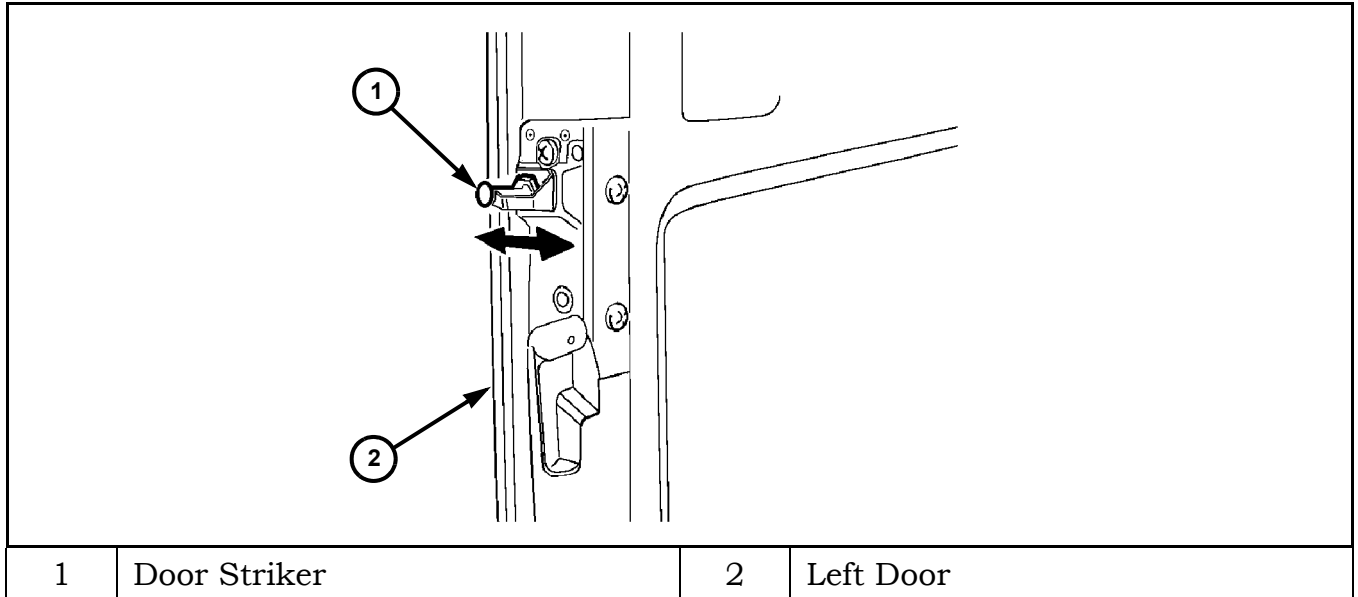

Figure 20 Door Striker Adjustment
- Loosen door striker and adjust horizontally so right door is flush with the left door (Figure 20).